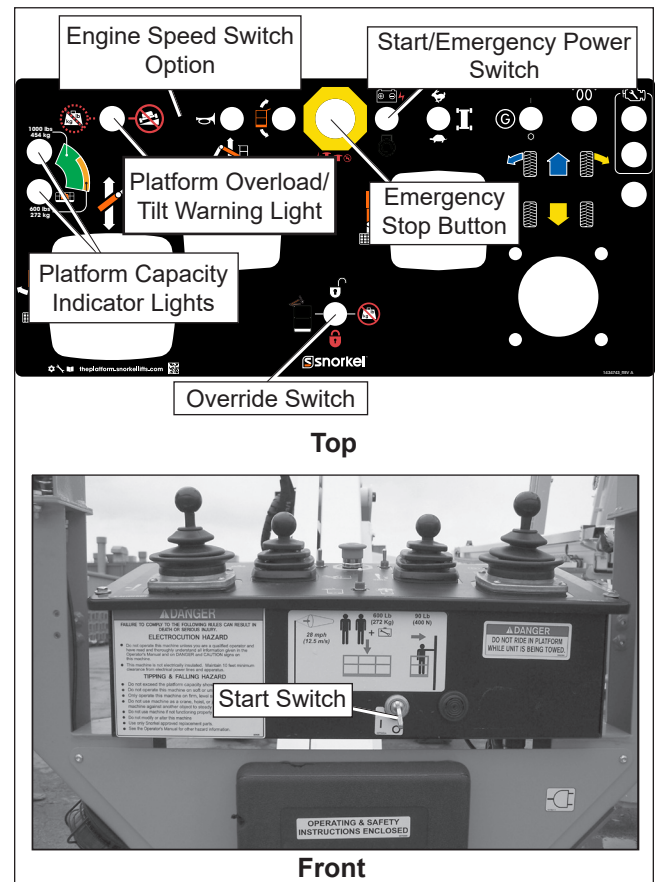

Figure 8.2 – Upper Controls
6. Pull the emergency stop outward (refer to Figure 8.2).
The optional engine speed switch is to the left of the horn switch on the upper control panel (refer to Figure 8.2). It is used to set the engine idle speed to either high or low idle. When in the downward or low engine speed position, the engine idle speed is reduced to 1,300 rpm. Low speed may be used to operate with reduced engine noise.